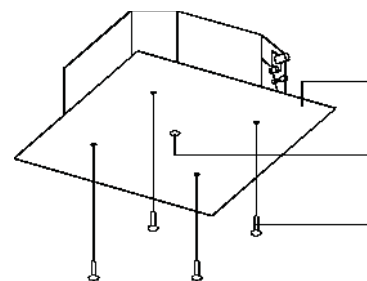

Fig. 29 – Attach Screws
- After removing the packaging material from the paper pattern for installation, attach the paper pattern to the unit with the attached screws (see Fig. 29).